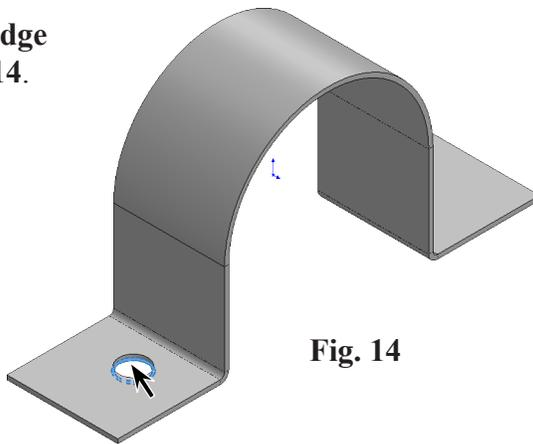

Fig. 14
Step 1. Click the **bottom circular edge of hole** to select edge, **Fig. 14**.